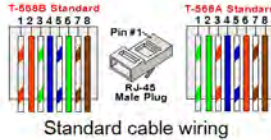

Figure 26: Standard cable wiring
- c. Insert the eight wires into an RJ45 connector (see *Figure 26*).
8. For the switch/router side, use a pre-crimped cable or use a crimper to prepare an RJ45 communication connector: Insert the eight wires into the RJ45 connector in the same order as above (see *Figure 26*).